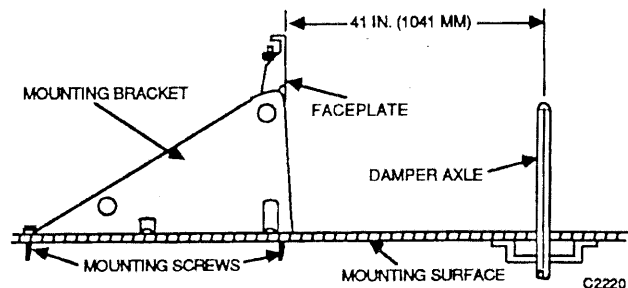

Fig. 15. Mounting Bracket Installation.
4. Install mounting bracket using four mounting screws provided (Fig. 15).